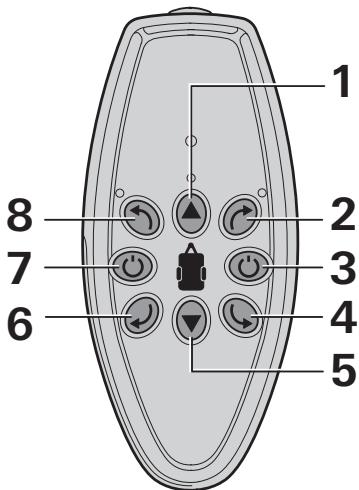
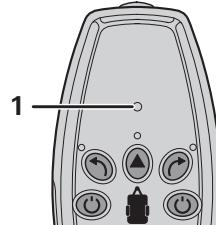

Figure 2
Figure 6
- Press the button (Figure 2 - 7) on the remote control until the LEDs light up (Figure 6 - 1).
- !** The "Off" switch on the remote control (Figure 2 - 3) can also be used as an "emergency stop switch". In case of any problems, e.g. uncontrolled behaviour of the GO2, press the "Off" switch immediately.
– Use the direction buttons (Figure 2 - 1/2/4/5/6/8) to move the caravan in the required direction.
i If you press opposite direction buttons simultaneously (Figure 2 - 2/6 or 4/8), the caravan rotates around its own axle in the respective direction.
– While moving (forward/backward), the driving direction can be changed with the direction buttons (Figure 2 - 2/8 and 4/6).
- Press the button (Figure 2 - 3) on the remote control. The LEDs go out.